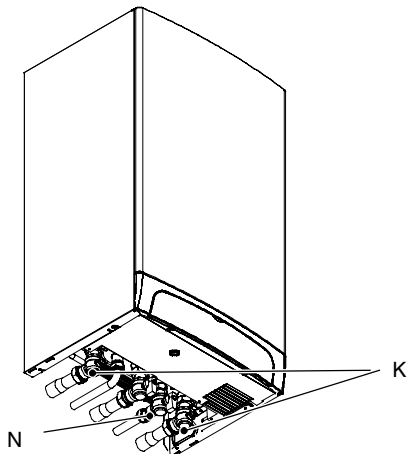

Fig. 2.9 – bottom view of the boiler
1 Close the c.h. circuit flow and return cocks *K*. (Fig. 2.9).
- 6 Close the d.c.w. inlet cock *N* (Fig. 2.9);